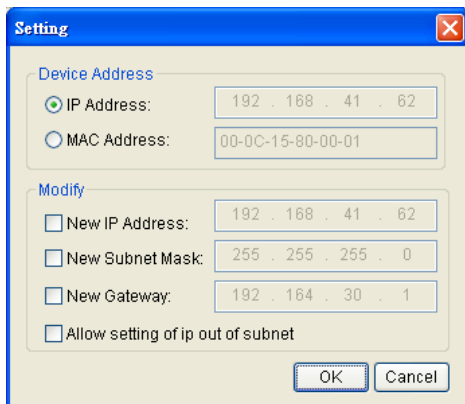

Figure 2. The SNMP card setting window.
5. You can modify the new IP, new subnet mask, and new gateway address using the IP or MAC address in the SNMP card setting window, as shown in figure 2.